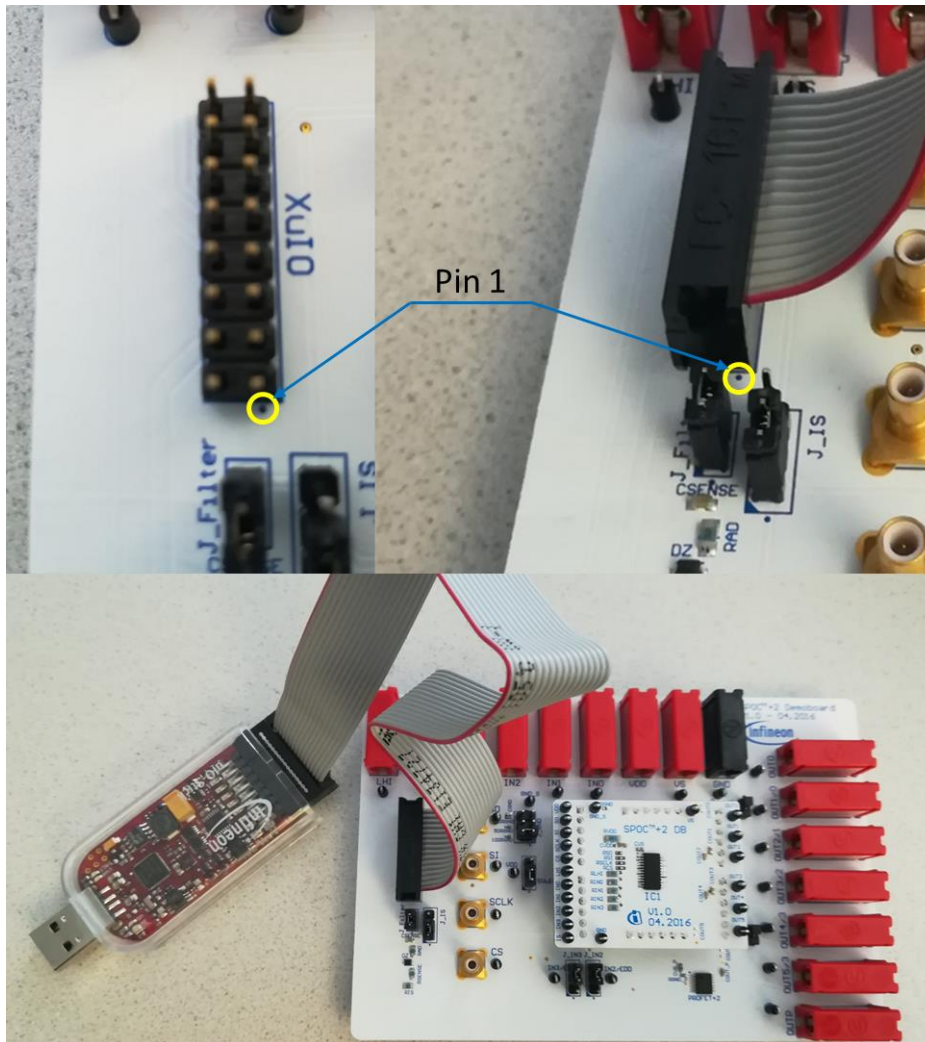

Figure 12 - Connecting μ O-Stick to SPOC™+2 MB
- Connect the μ O-Stick to the SPOC™+2 MB via the connector cable (see Figure 12)